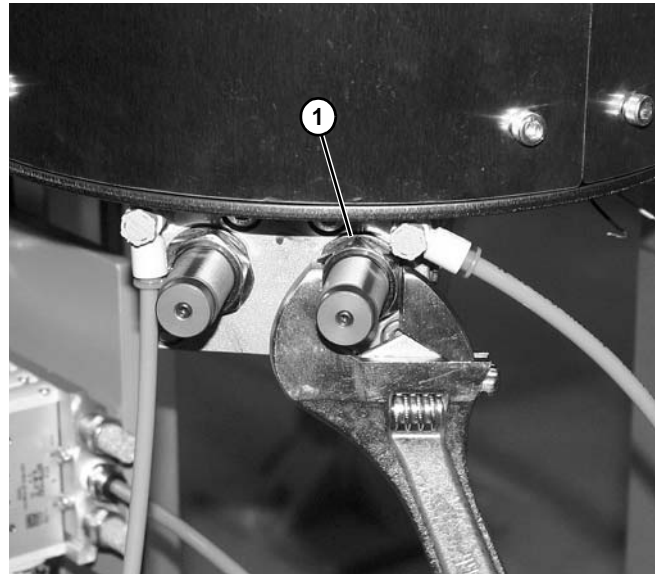
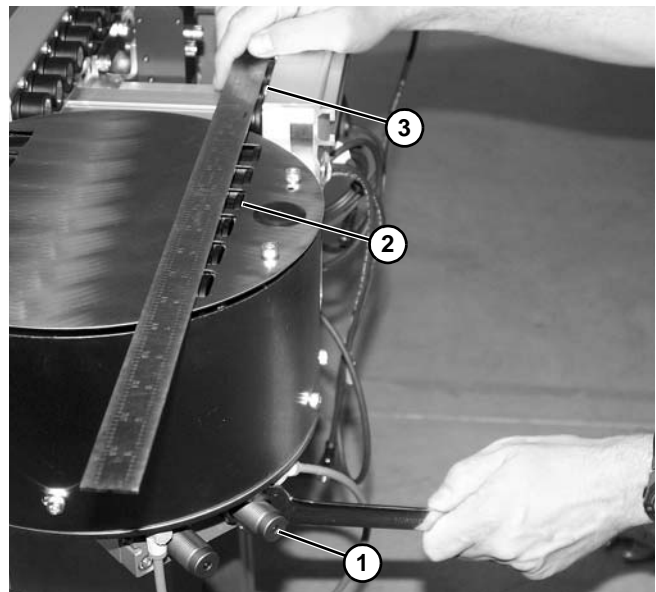

Figure 80
Figure 81
1. To adjust counterclockwise rotation, loosen right side nut (**Figure 80, item 1**) with an open-end wrench.
2. Adjust counterclockwise rotational movement by rotating rod (**Figure 81, item 1**) left or right with an open-end wrench until turn and transfer unit rollers (**Figure 81, item 2**) are aligned with conveyor rollers (**Figure 81, item 3**). Tighten nut (**Figure 80, item 1**).